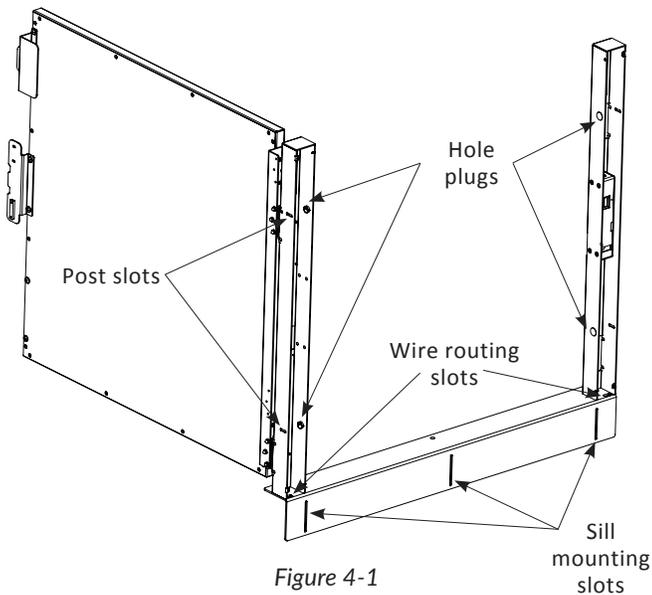

Figure 4-1
2. Create the necessary space below the gate sill so the wire can be routed into the gate post through the wire routing slot. *See Figure 4-1.*